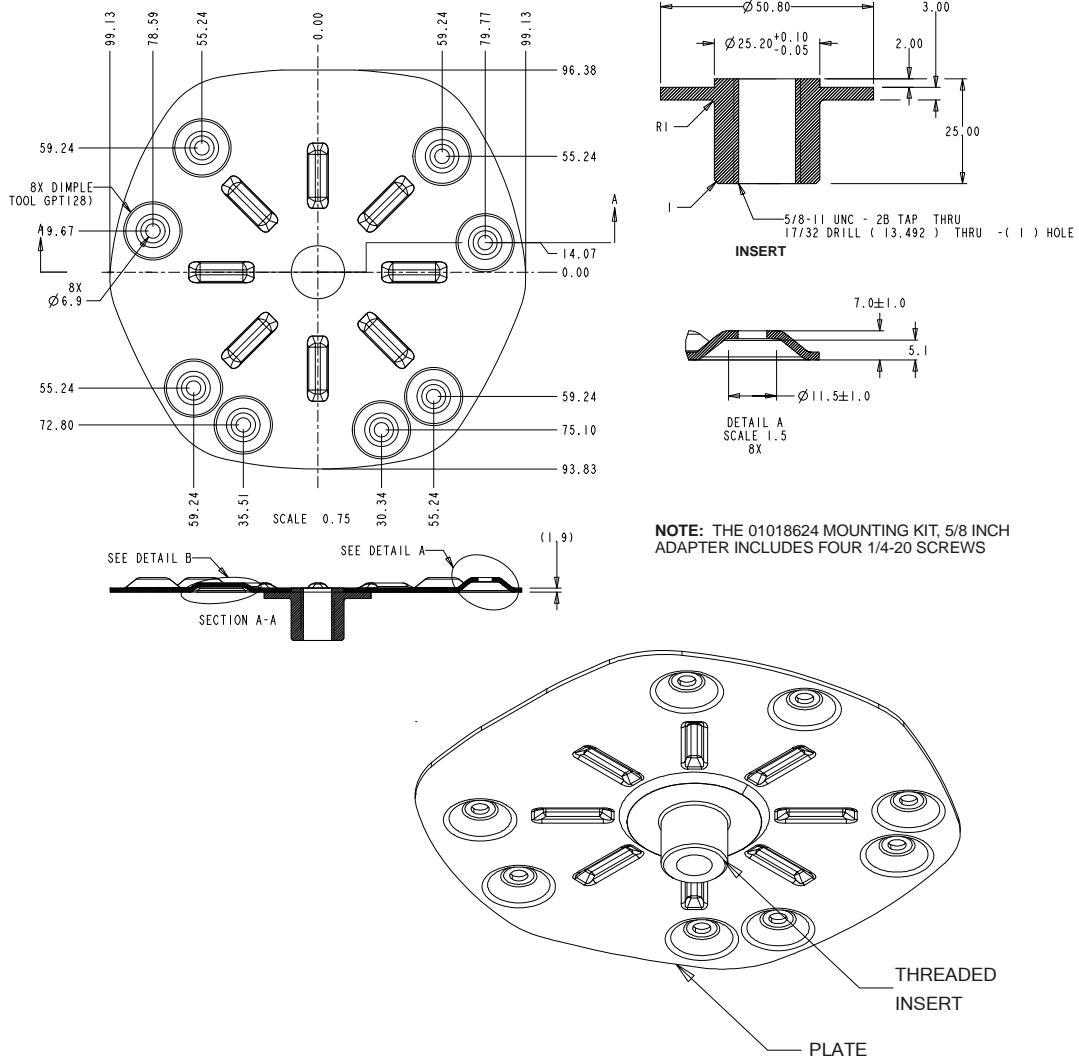

Figure 6: SMART-MR10/15 Mounting Kit, 5/8 Inch Adapter (01018624)
- Mounting Kit, 5/8 Inch Adapter (part number 01018624), shown in *Figure 6* on *page 31*.